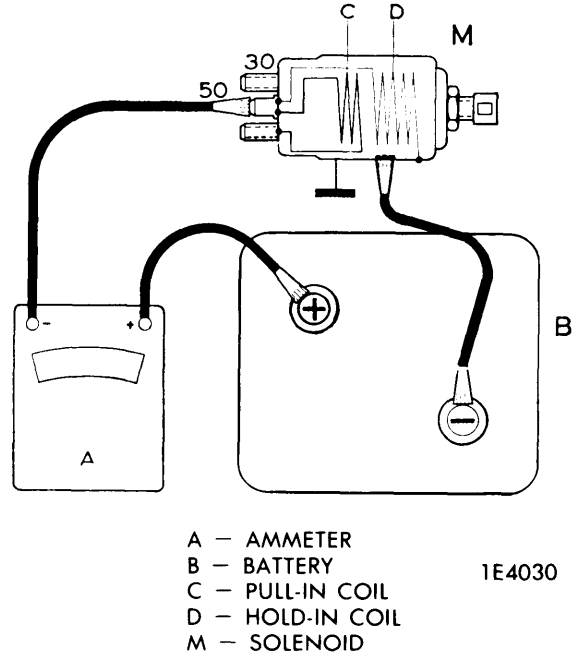

Fig. 2 Jumper Connections for Hold-In Test
**Hold-In Coil** - Connect jumper wires between a 12 volt battery and solenoid as shown in Figure 2, at the same time, press the armature into the solenoid by hand. The armature should remain held-in. Disconnect jumper to terminal 50 and armature should immediately return to its outer position.